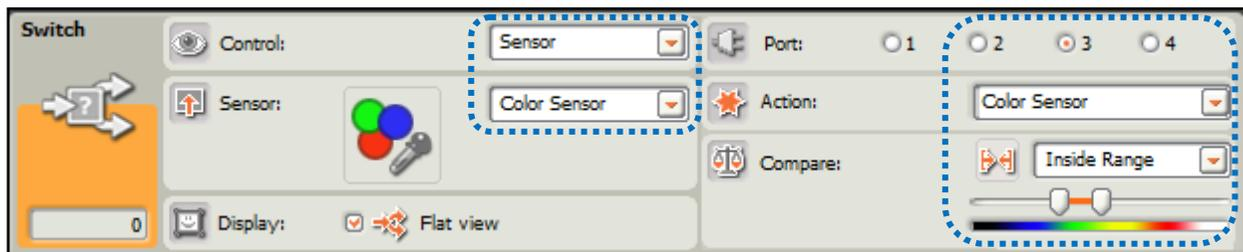

Figure 19 Color sensor parameters
**Step 6.** Select the Switch block. Then, choose “**Sensor**” in Control field, choose “**Color Sensor**” in Sensor field, check port 3 (or the port that connect your color sensor in table 1 on page 11), choose “**Color Sensor**” in Action field, choose “**Inside Range**” in Compare field, move the slide bar to select the **green** color (figure 19).